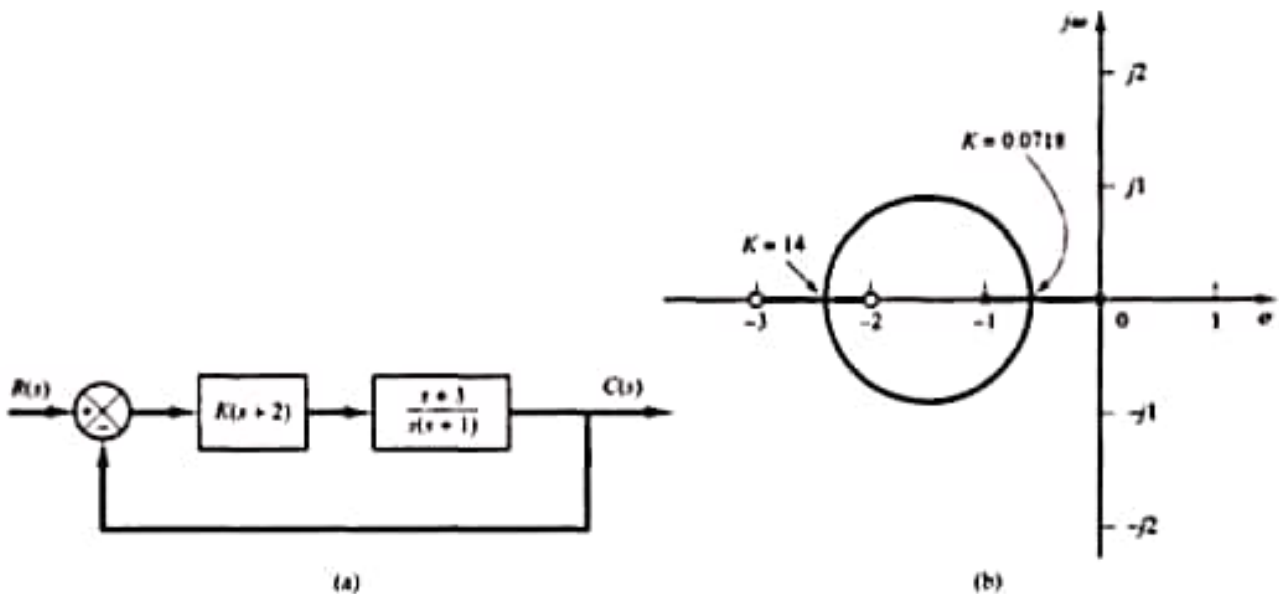

Figure 6-39
- A-6-1.** Sketch the root loci for the system shown in Figure 6-39(a). (The gain K is assumed to be positive.) Observe that for small or large values of K the system is overdamped and for medium values of K it is underdamped.